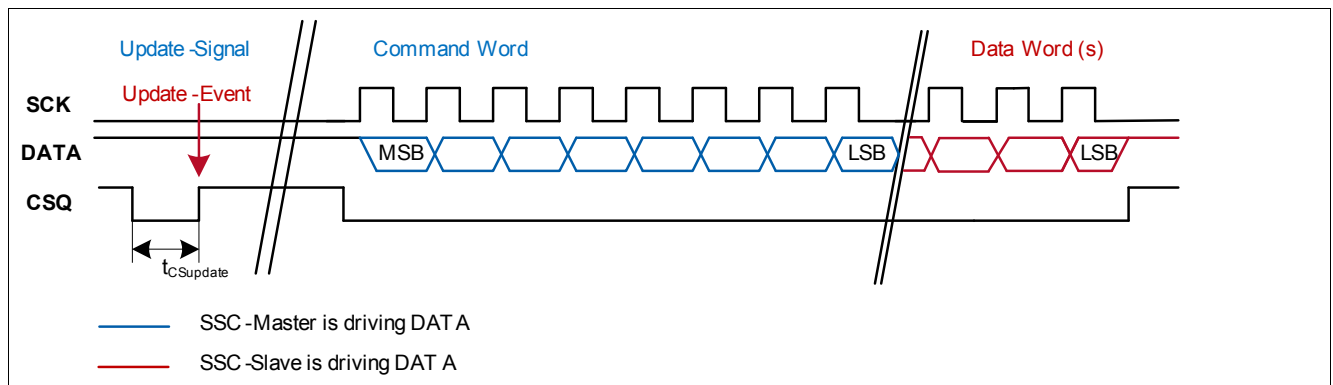

Figure 4-13 Update of update registers
- At a rising edge of CSQ without a preceding data transfer (no SCK pulse, see Figure 4-13), the content of all registers which have an update buffer is saved into the buffer. This procedure serves to take a snapshot of all relevant sensor parameters at a given time. The content of the update buffer can then be read by sending a read command for the desired register and setting the UPD bit of the Command Word to "1".